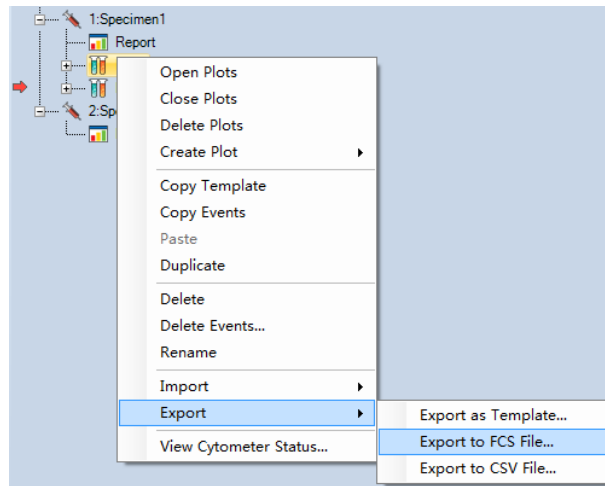

Figure 3-38 Manually Export Data
- ▶ To manually export a file, right-click the specimen or sample name in the *Experiment Manager* and select *Export* → *Export FCS File ...* or *Export* → *Export CSV File ...*, as shown in Figure 3-38. In the prompt window, specify the folder to export the data.